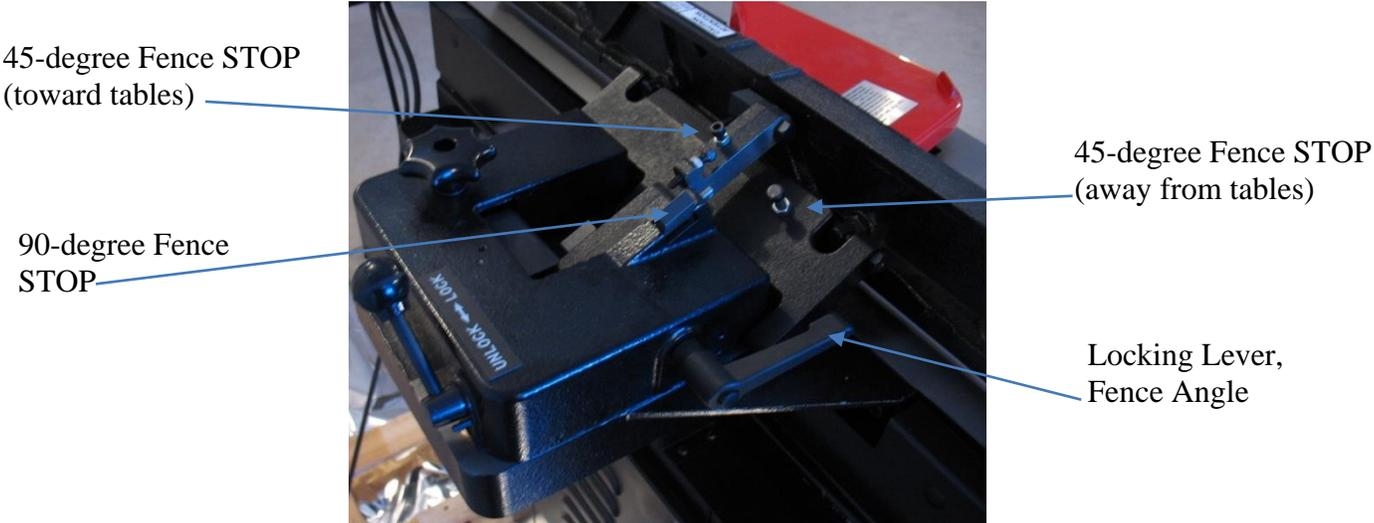

Figure 28: Fence Angle Adjustment Components
4. To adjust the fence perpendicular or angled to the bed, loosen the Locking Lever (Fig. 28) and adjust the fence to the desired position.
NOTE: The 90-degree position has an included reference STOP (Fig. 28). To adjust, flip the stop into position, loosen the lock nut and rotate the adjusting screw until the fence is at 90 degrees to the table. Tighten the lock nut and flip the stop back if making other angled adjustments. To check the 90-degree setting, place a square on the outfeed table and against the fence.